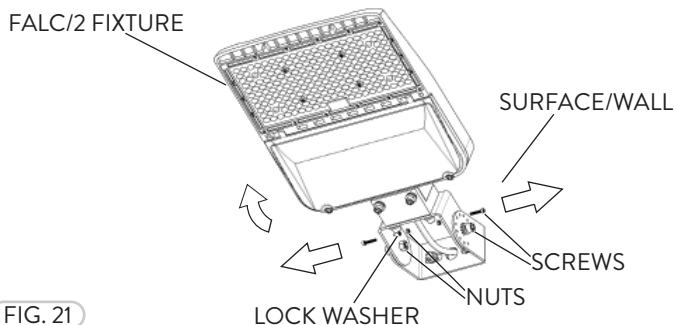

FIG. 21
- 4 The FALC/2 fixture can be rotated upward by adjusting the Trunnion Mount angle. Remove the smaller Screws and Nuts and loosen larger ones at each side. Rotate to set the angle, then fasten the all the Screws and Nuts to secure the Trunnion Mount in place (Fig. 21).